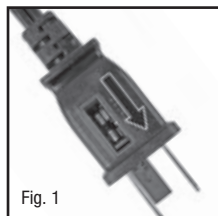

Fig. 1
- Slide fuse cover, located on the top of the plug, towards the prongs of the plug. (Fig. 1)
- Place the power cord through the recessed channel located in the center of the rear base assembly (Fig. 1).